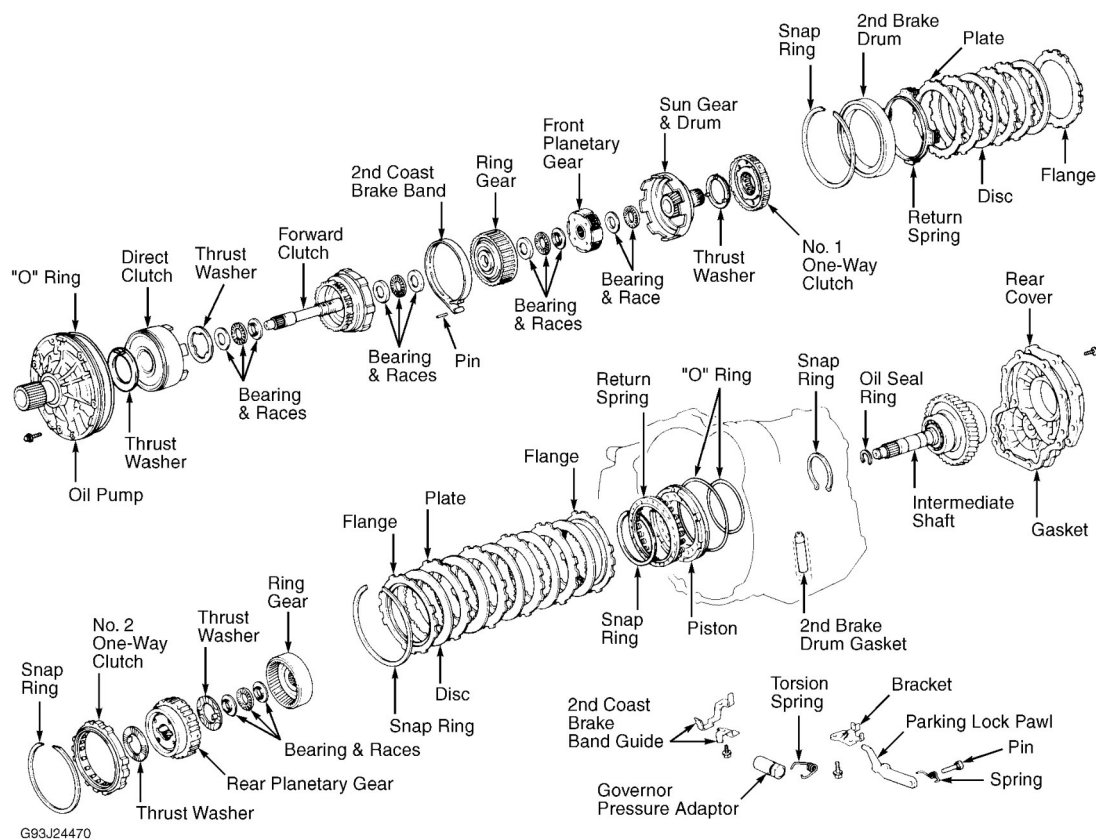

Fig. 14: Exploded View Of Transaxle Internal Components
5. Remove forward clutch. Remove race and thrust bearings from forward clutch. Using small screwdriver, push 2nd coast brake band pin inward and remove from oil pump mounting bolt hole. Remove 2nd coast brake band. Remove front planetary ring gear. Remove bearing and race from ring gear. See **Fig. 14**.
Remove transaxle rear cover bolts. Tap rear cover using a plastic hammer. Remove cover. Remove intermediate shaft. Remove snap ring. Using Spring Compressor (09351-32040), remove piston return spring from transaxle case. Apply compressed air into oil passage. Remove 1st and reverse brake piston. See **Fig. 13** and **Fig. 14**.
9. Remove parking lock pawl bracket. Remove parking lock rod. Remove pin, spring and parking lock pawl. Remove manual valve shaft spring, collar and pin. Remove manual valve lever from transaxle case. Remove manual shaft oil seal. Remove governor pressure adaptor from transaxle case. See **Fig. 14**.